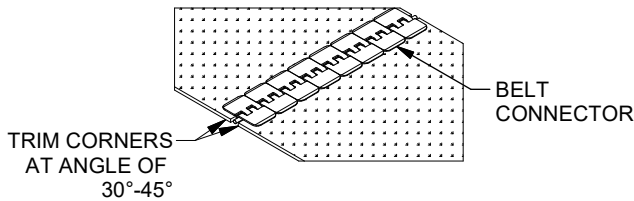

FIGURE 3
4. Feed the belt back through the tube structure. Pull it with the cable or rope until it comes out from the Hopper End, then join the two ends together using the belt connectors as shown in Figure 3.